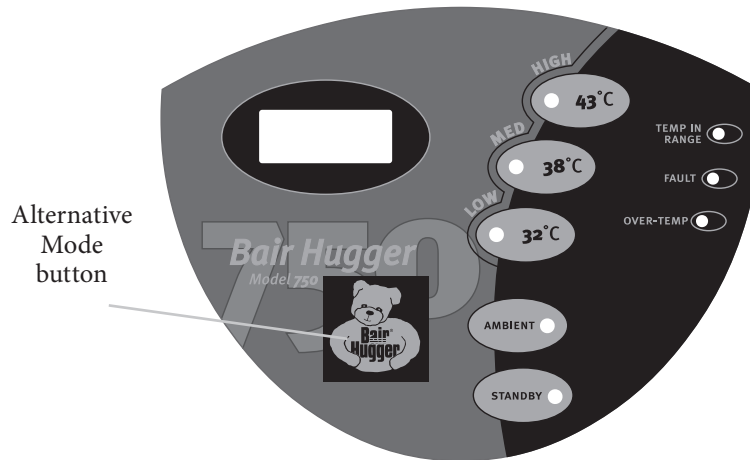

Figure 2. Control panel
7. Press the **Alternative Mode** button (see Figure 2) and the **Ambient** button simultaneously for 3 seconds. The temperature management unit is now in *Calibration* mode. In this mode, the temperature management unit performs the following tasks:
4. Press the **Alternative Mode** button (See Figure 2) and the **High** button simultaneously for 3 seconds. The temperature management unit is now in a *Forced Over-temperature* mode. In this mode, the temperature management unit performs the following tasks:
2. Press the **Alternative Mode** button (see Figure 2) and the **Low** button simultaneously for 3 seconds. The temperature management unit is now in *Fault Code Log* mode. In this mode, the temperature management unit performs the following tasks: